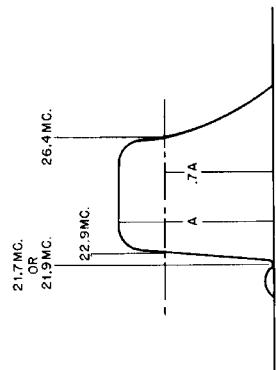

FIGURE 7. VIDEO IF RESPONSE WAVEFORM
The video IF amplifier response curve is shown in Figure 7. The bandwidth at the 3 db points should be approximately 2.5 mc. To check this with an AM generator, note the signal strength in microvolts necessary to produce an increase of approximately 1 volt above contact potential at 24.5 mc. Increase the generator input by 1.4 times and shift the generator frequency both sides of 24.5 mc until the original detector voltage reading is again obtained. These two new frequencies thus obtained are the 3 db skirt frequencies and should be approximately 22.9 mc and 26.4 mc. This measurement should be made with the -3 volt mixer bias and a -5 volt contrast bias.
9. Compare the curve with the ideal curve in Figure 7, using the marker to locate specific frequencies on the wave. If it is necessary to alter the shape of the curve, readjust the core closest in frequency to the point requiring correction.